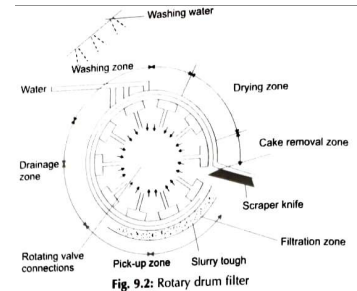

Fig. 9.2: Rotary drum filter
**Construction:** Rotary drum filter consists of a metal cylinder that is mounted horizontally (Fig. 9.2). The rotary drum is up to 3 metre in diameter and 3.5 metre in length, having an area of 20 metre square. The curved surface is perforated which supports filter cloth of the rotary filter. The drum is radically divided into separated compartments. By an internal pipe each compartment is connected to the centre of the drum through a rotating valve. **working:** During operation drum rotates at low speed. The drum just enters the slurry in the trough. When it (drum) dips in the slurry, due to the applied vacuum, the